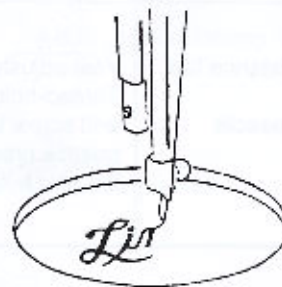

Figure 26
(2) Remove the presser foot, needle plate, inner cover, thrust plate and material-feeding tooth. After that, the embroidering plate is put into use;
(3) Hold firmly the end of the surface stitches with your left hand, turn the belt pulley manually toward the operator, and then makes the bottom stitches pull out from the holes of the needle plate;
(4) Make sure to stretch tightly the material between the internal and external embroidering frame. Otherwise, skipping, stitches-breaking or material creased might be found (see Figure 26);